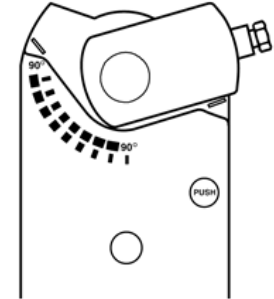

Figure 12
1. Figure 12. Insert the shaft adapter to the right as close as possible to the raised stop.